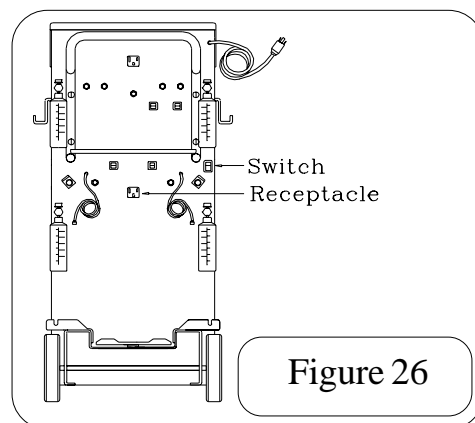

Figure 26
- c. Turn on the switch. (Refer to Figure 26).